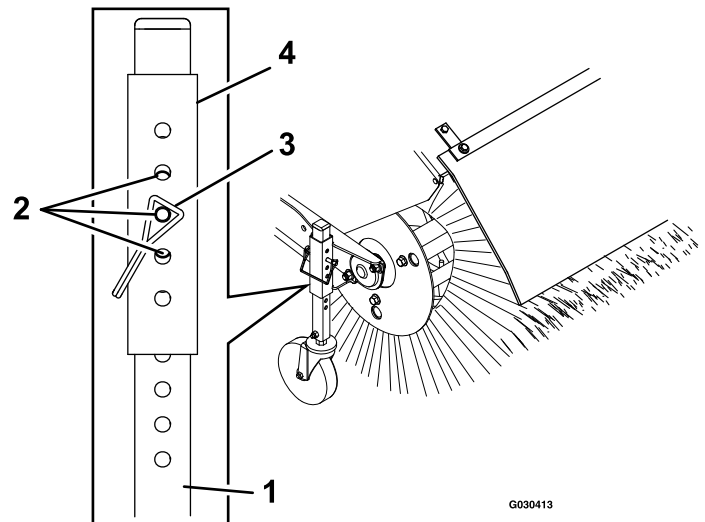

Figure 17
- To adjust the broom height, remove and retain the pin from the adjuster sleeve and wheel tube of the caster (Figure 17).
- For fine tuning adjustments, slide the adjuster sleeve 1 pin hole up or down on the caster wheel tube to adjust the broom height in 3 mm (1/8 inch) increments (Figure 17). Repeat steps 5 through 7 for the other caster wheel.